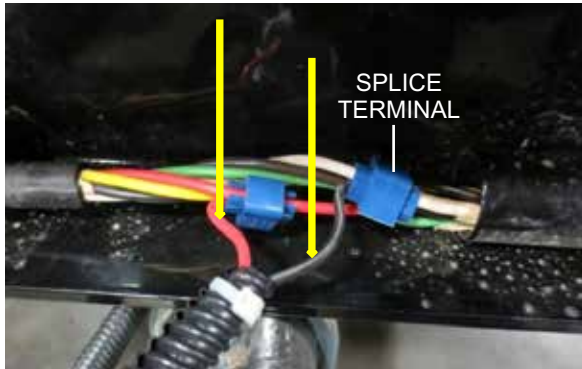

Figure 5. Splice Terminals
8. Open the splice terminals (P/N 19761) and remove the wires coming from the axle brakes as shown in Figure 5.